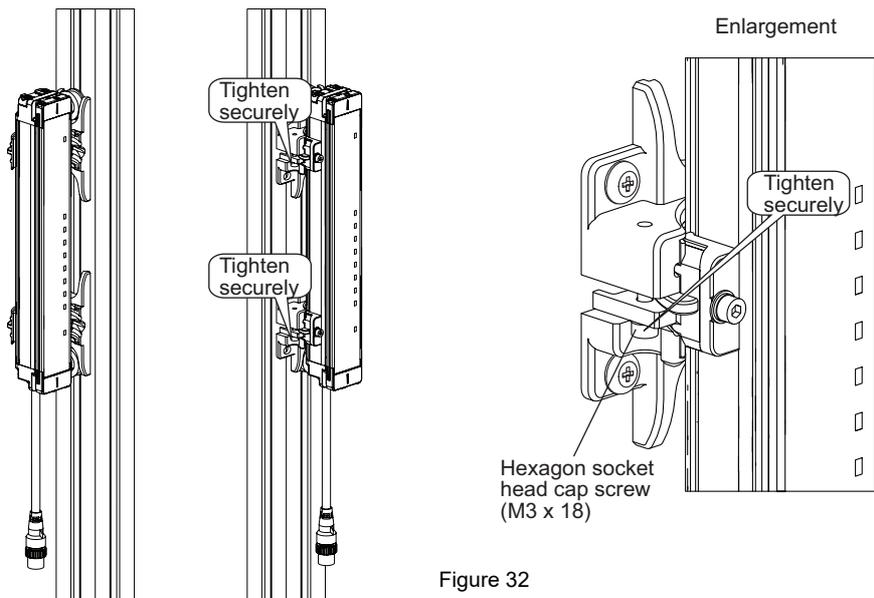

Figure 32
- Tighten two hexagon socket head cap screws (M3 x 18) on Intermediate Bracket (3) to prevent rotation. (Figure 32)